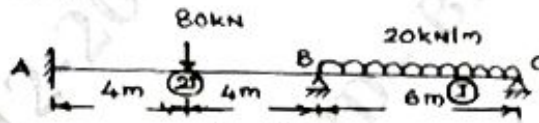

Fig.Q1
1. Analyse the beam completely by slope deflection method relative to support A support B sinks by 1mm and support C rises by 0.5 mm. Take $EI = 30000 \text{ kN-m}^2$. Refer Fig.Q1. Draw BMD, SFD and Elastic curve.